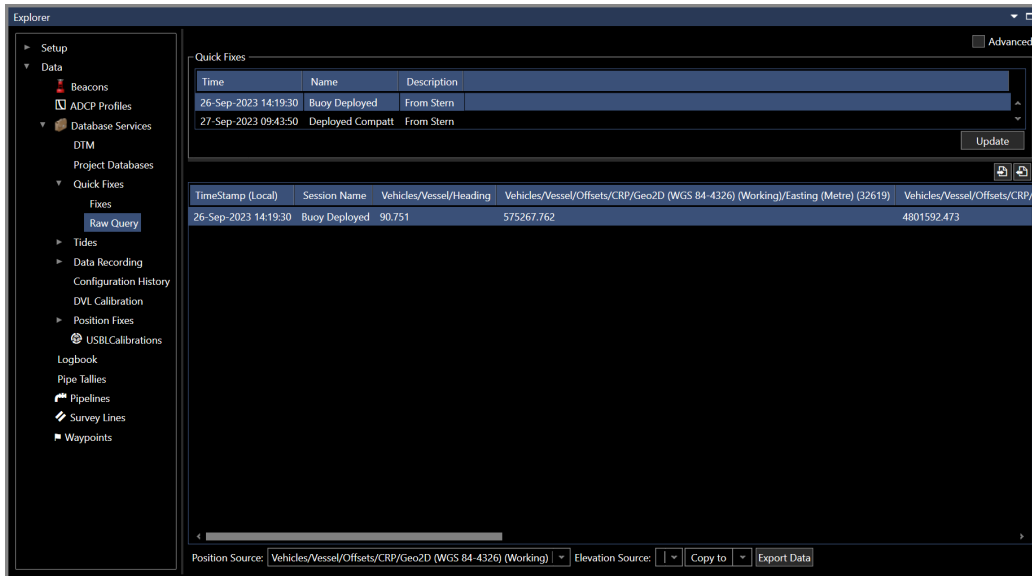

FIGURE 14-52 QUICK FIXES - RAW QUERY – FIX CAPTURED DATA
- a. By selecting an individual fix or a group of fixes in the top panel **Quick Fixes** and clicking the **Update** button, a grid listing of captured data is displayed in the bottom panel. See FIGURE 14-52